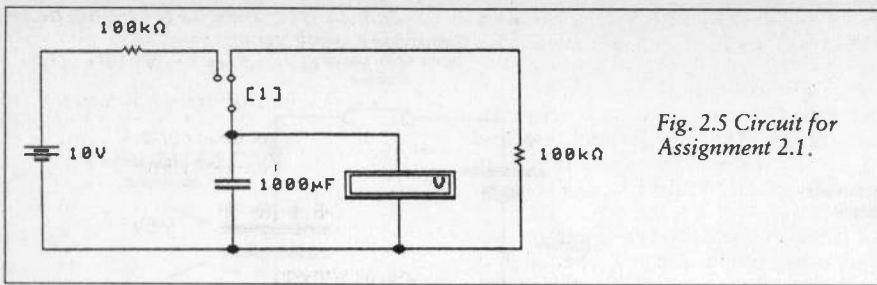

Fig. 2.5 Circuit for Assignment 2.1.
1. Connect the circuit shown in Fig. 2.5. The voltmeter is used to indicate the potential difference across the capacitor plates whilst the switch (which can be operated using the 1 key on your keyboard) determines whether the capacitor is being charged via a 100kΩ resistor from the 10V supply or discharged through another 100kΩ resistor.